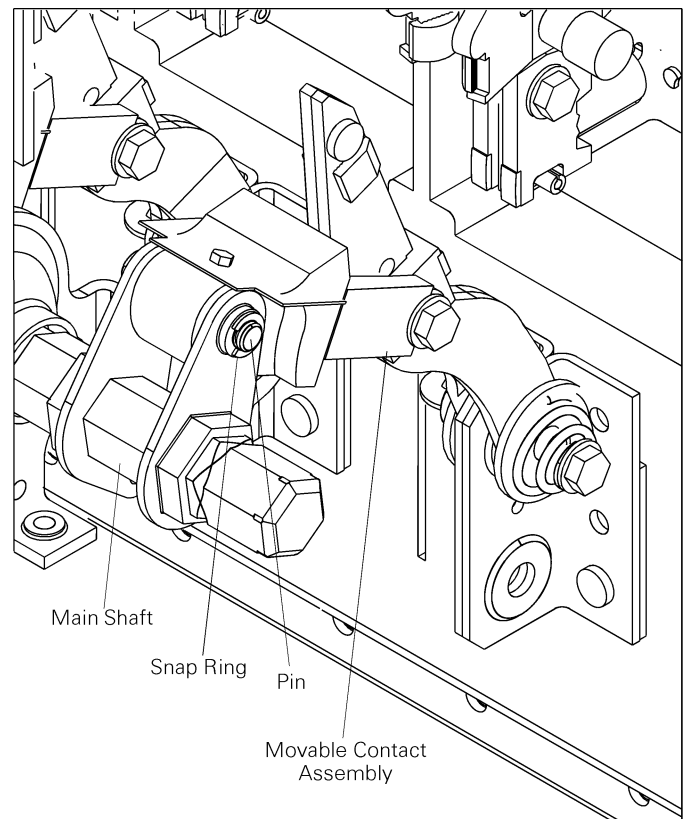

Figure 7. Movable contact connection to the breaker main shaft on EGS08, EGF08, and EGH08 breakers.
6. Remove one of the snap rings and slide out the pin connecting each of the movable contact assemblies to the breaker main shaft, as illustrated in Figure 7.
4. Reconnect the movable contact assemblies to the breaker main shaft by inserting the connecting pin and reattaching the snap ring, as illustrated in Figure 7.